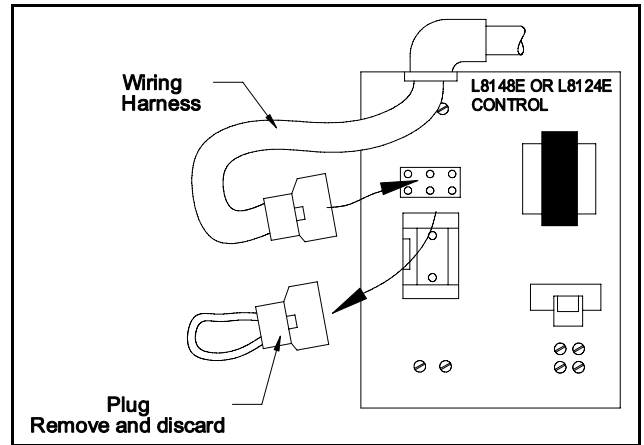

Figure 5
1. To locate the vent damper wire harness (if supplied) receptacle on the appliance, refer to the appliance manufacturer instruction manual and follow accordingly. (See Figures 5,6,7)